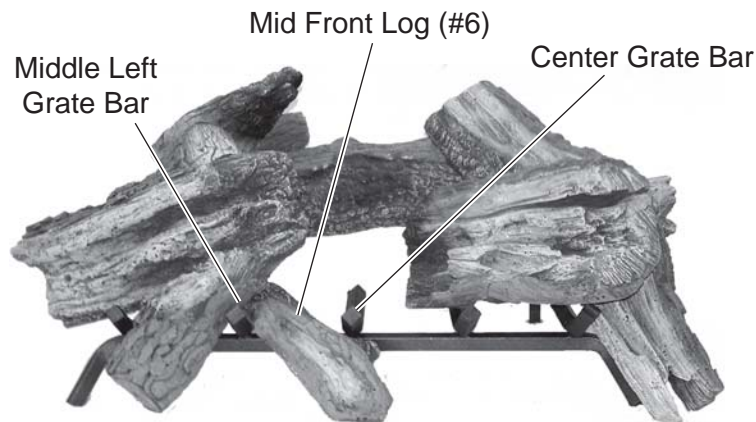

Figure 135 - Placing Mid Front Log (#6) on Grate Between Center and Middle Left Grate Bars.
7. Place Mid Front Log #6 on grate between center and middle left grate bars. Fit notch on back of log on the cross grate bar. *See Figure 135.*